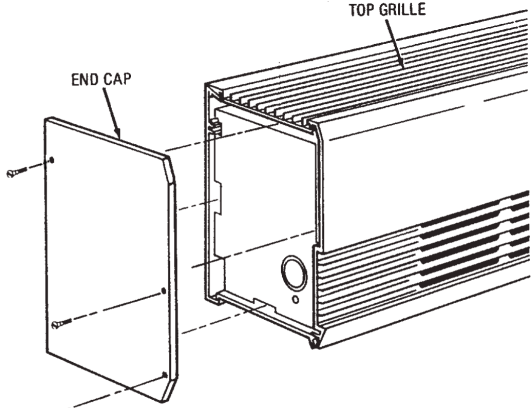

Figure 1a
1. Position the end cap on the end of heater. Install two (3) No. 6 flat head screws (supplied) to secure the end cap to the front cover. (See Figure 1A.)